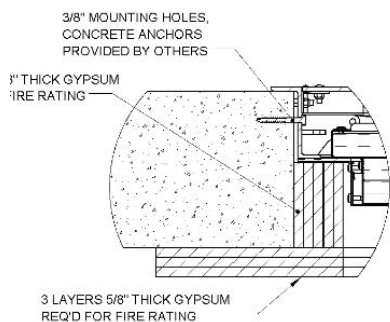
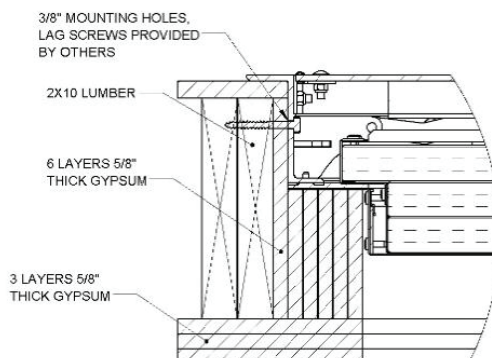

FIGURE 1
FIGURE 3
- With two or more people, set the floor door in place and secure to the mounting surface with bolts (For existing concrete openings, 3/8-inch anchor bolts are recommended (Figure 1 & 2). For existing wood openings 3/8-inch lag bolts are recommended) (Figure 3 & 4). Secure Hinge side frame first.
- Slide in the keeper extension until it rests on the spring. (Figure 1)
- Optional Self-Closing Mechanism: Integrated in hold open arm assembly. (Figure 1)